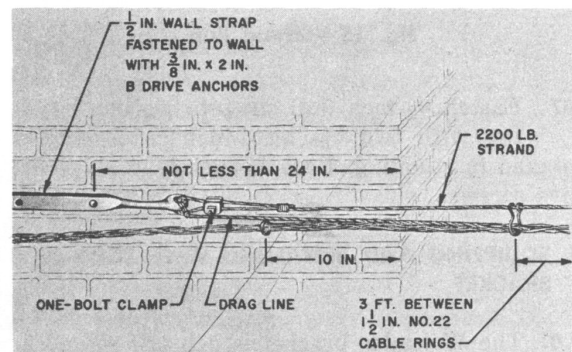

Fig. 13 — Span in Line with Wall
9.06 Where span exceeds lengths specified in 9.03 or 9.04, bridle wire may be run in 1½-inch No. 22 cable rings attached to 2200-pound strand. Space cable rings 3 feet apart. Place a drag line in the rings of the crossing span at the time they are attached. The drag line should always be replaced after it has been used for pulling wires across the aerial block wire span. This may be done at the time of pulling in additional wires by attaching a new drag line to the existing line and pulling the new line into the rings at the same time the wire is pulled in. Tie the drag line at the end of the strand. (See Fig. 13, 14, and 15.)